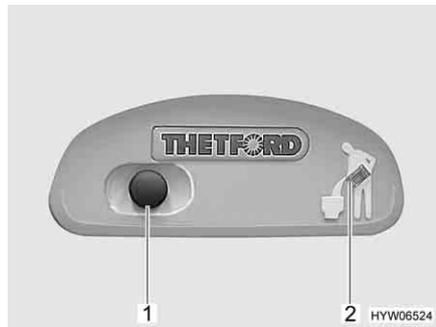
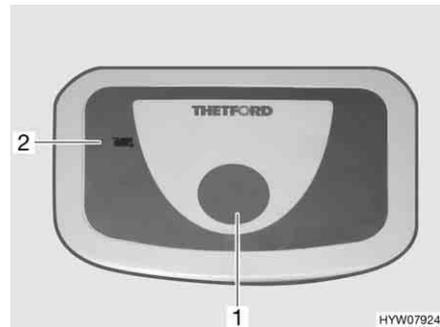

Fig. 166 Flush button/indicator lamp Thetford toilet
Fig. 167 Flush button/indicator lamp Thetford toilet (alternative)
- For flushing, press the blue flush button (Fig. 166,1 or Fig. 167,1).
The indicator lamp (Fig. 166,2 or Fig. 167,2) goes on whenever the sewage tank has to be emptied.